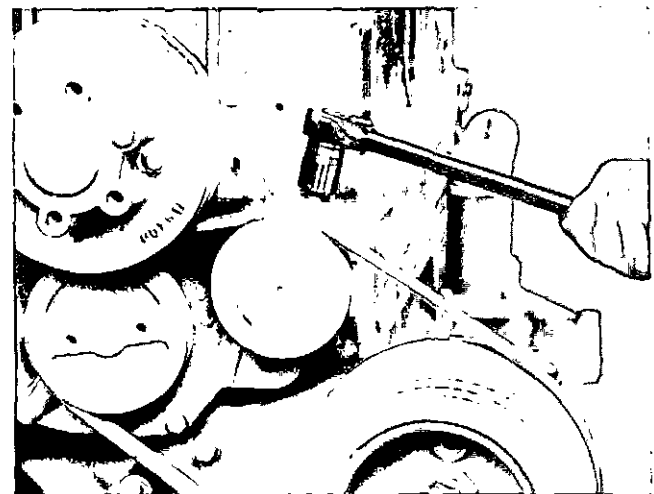

Fig. 0-28. Loosen The Water Pump Belt.
1. Loosen the nut on the end of the idler shaft. Loosen the adjusting screw for the idler pulley. This releases the tension on the belt for the water pump, Fig. 0-28.